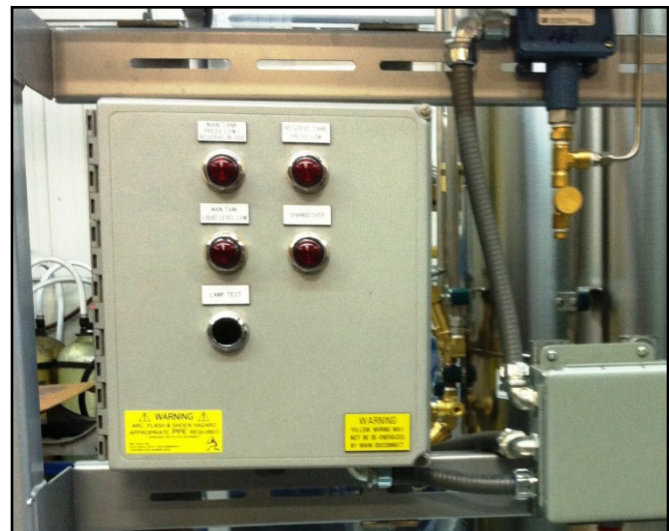

Figure 8 - Optional local signal alarm panel
- If the medical skid is equipped with a local signal alarm panel (see Figure 8), termination points CR1, CR2, and CR3 are located inside the panel. (See Appendix 3, Alarm panel electrical schematic) Panel also requires a dedicated 120 VAC, 20 amp circuit that is also connected to the facility back up electrical generator. Control power source for the local alarm relays shall be independent of any of the master alarm panels.